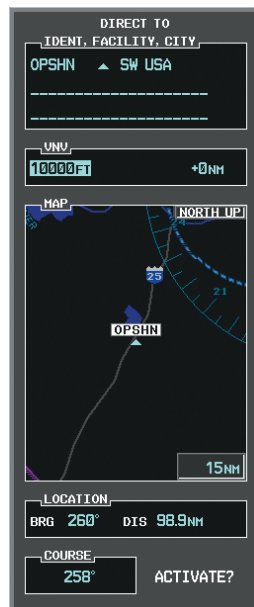

Figure 5-120 Enter VNV Altitude
d) Turn the large **FMS** Knob to place the cursor in the VNV altitude field as shown in Figure 5-120.